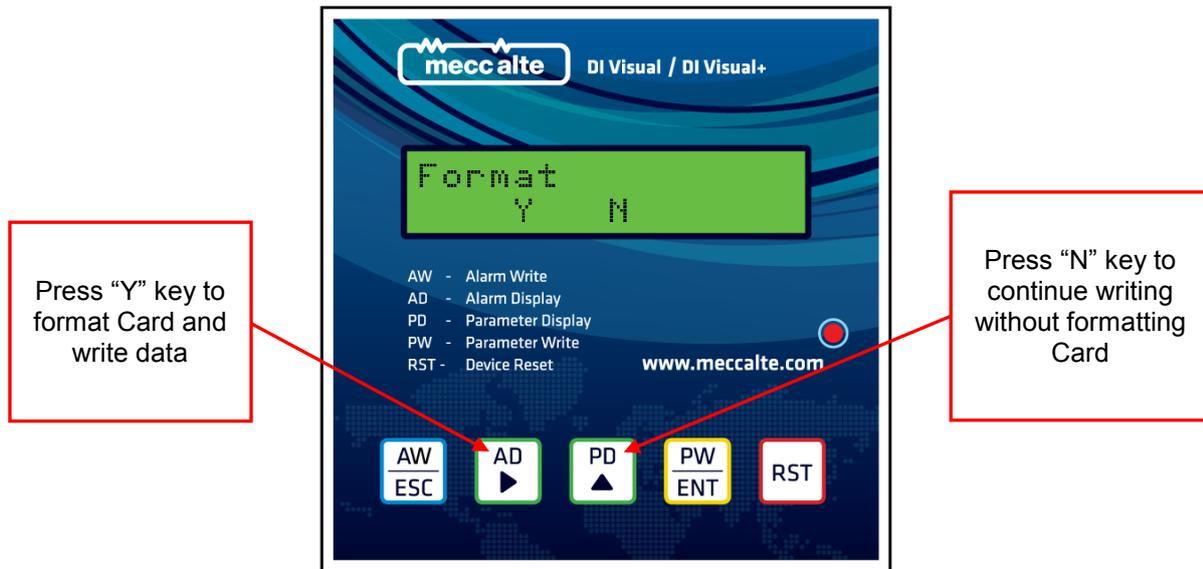

fig. 23
- 3) Once the Parameter values are collected from DSR “Format Y N” message will be displayed on the LCD display. Press  key as shown in fig 23 above to format the SD Card and continue writing Parameter values on the SD card and LCD display will show message “Writing Data” blinking as shown in image below. Press  key to continue writing Parameter without formatting the SD